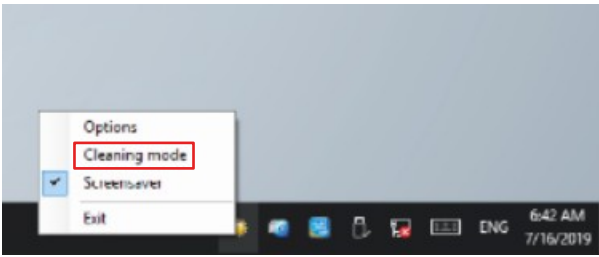

Fig. 8: CP69xx_Select Cleaning Mode
3. Select the "Cleaning Mode" (see Fig. 8).